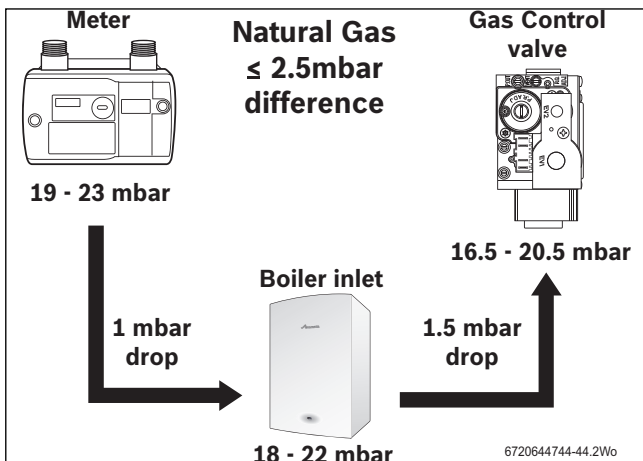

Fig. 48 Natural gas pressures
- ▶ Check the gas supply working pressure at the gas valve conforms to values shown in figures 48 or 49.